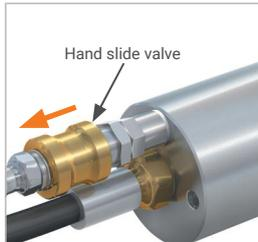

Figure 6
- ▶ Push the sliding sleeve of the hand slide valve (Pos. 6) backwards (Figure 6). The pilot pressure applied is vented. The front seals (Pos. 7) are relaxed, the connection to the test piece is released and the connector can be removed straight backwards.